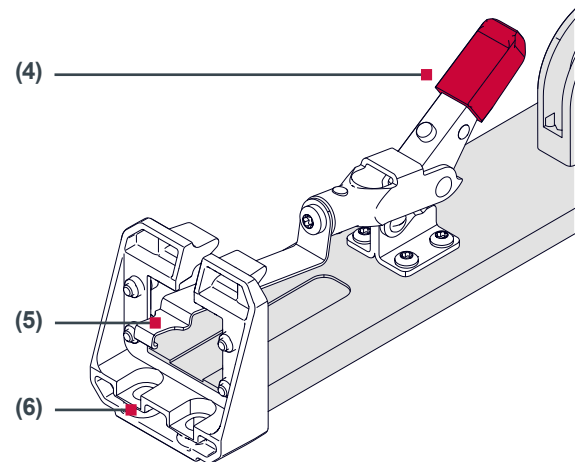

Fig. 17 Attaching the connector bracket
3. Pull the second clamping lever (4) on the assembly aid upwards to release it, and position the connector bracket (6) as shown in Figure 17.
4. Guide the retaining plate (5) over the connector bracket and close the clamping lever (4).